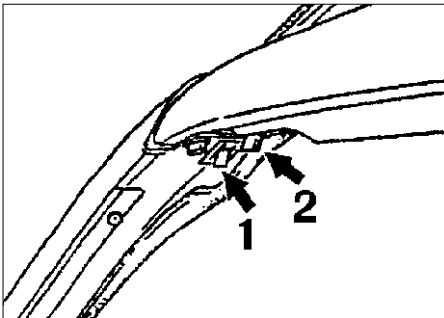

Figure 2
- Install a clamp (part number 999 507 542 01, arrow 1, figure 2) onto the plastic hose of the windshield frame seal. This prevents the plastic drain hose from moving to the top when installing the door seal.
- Install a 2 mm wide strip of sealing butyl around the metal drain pipe (arrow 2, figure 2) of the roof frame.